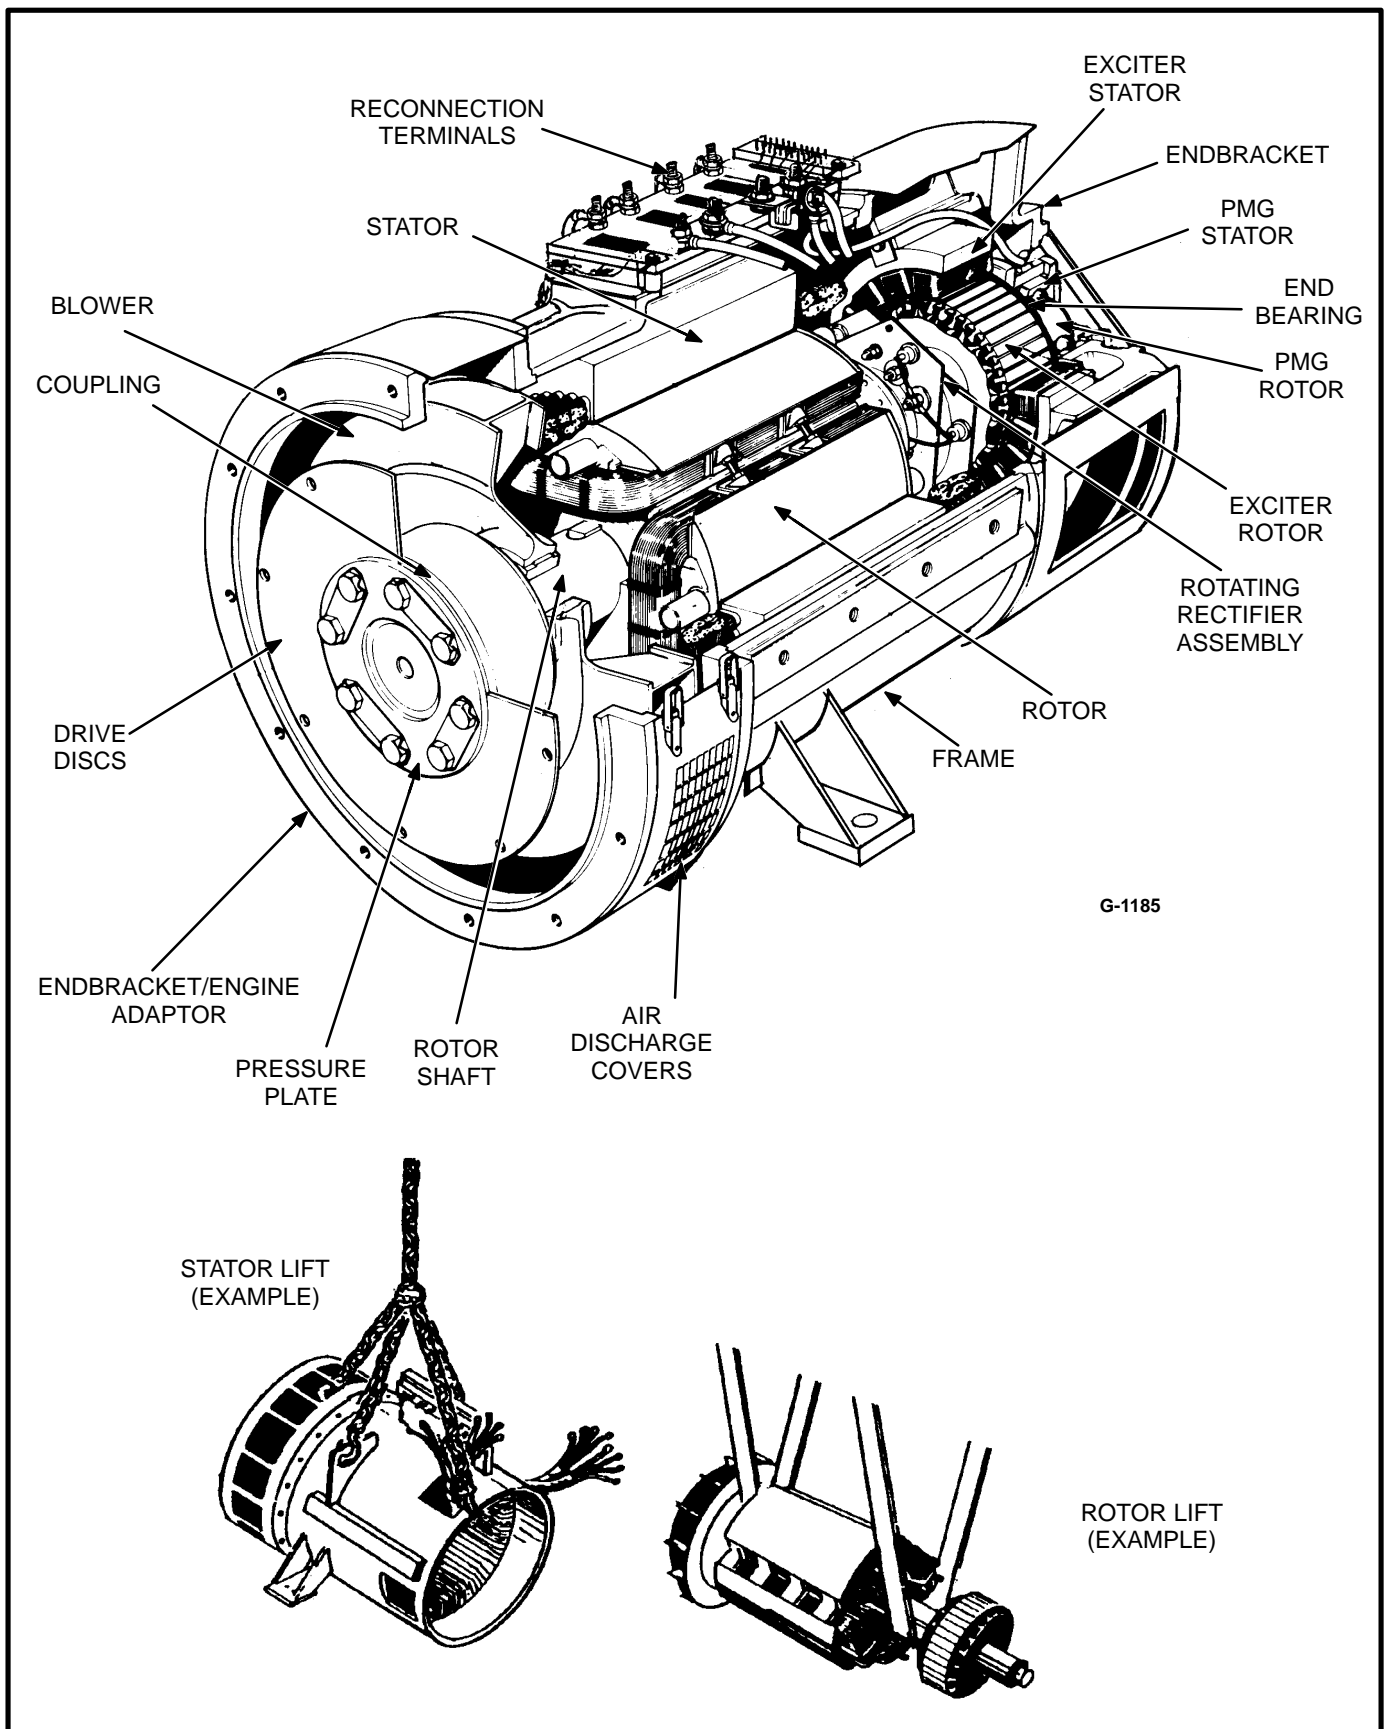

FIGURE 6-11. TYPICAL GENERATOR ASSEMBLY
22. Using a forklift, position a lifting bar of the forklift (inside and inline with the generator) under the rotor shaft. Lift the rotor shaft slightly so that rotor is not resting on inside of stator assembly. See Figure 6-11.
25. Reposition or add hoist and sling support for the main rotor, and remove the forklift. See Figure 6-11, Rotor Lift detail.
30. Using an adequate lifting device, lift the generator (at lifting eyes provided, and main stator housing) until the mounting feet brackets are clear of the frame member (see Figures 6-11 and 6-12).
19. Secure the rotor assembly drive disc to the flywheel using appropriate capscrews and flat washers. Refer to Figure 6-13 and Table 6-4 for torque specifications. Do not allow rotor assembly to hang on engine flywheel. (Refer to Figure 6-11.)
21. Using a forklift, position a lifting bar of the forklift (inside and inline with the generator) under the rotor shaft. Lift the rotor shaft slightly so that rotor is not resting on inside of stator assembly. See Figure 6-11.